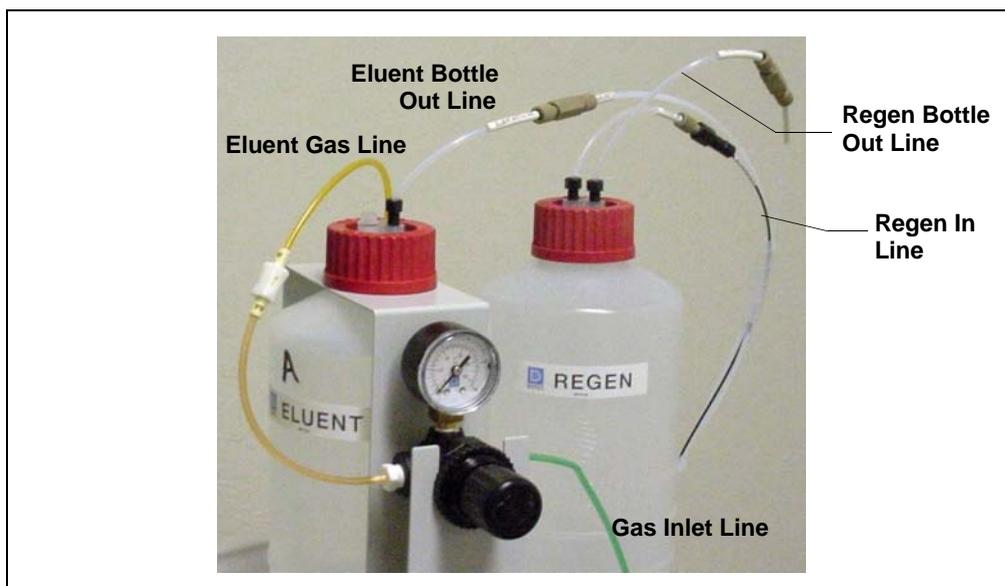

Figure 3-1. Reservoir Connections
1. Before beginning operation, verify that the clean gas supply is regulated to between 0.55 and 0.83 MPa (80 and 120 psi) and is connected to the gas inlet of the ICS-90 air regulator (see Figure 3-1).
1. Make sure the eluent and regenerant reservoirs are filled, the caps are tightly screwed onto the reservoirs, and the lines connecting the eluent and regenerant reservoirs to the ICS-90 lines are securely connected (see Figure 3-1).
2. Make sure the clean gas inlet line is regulated to between 0.55 and 0.83 MPa (80 and 120 psi), and is connected to the gas inlet of the ICS-90 air regulator (see Figure 3-1).